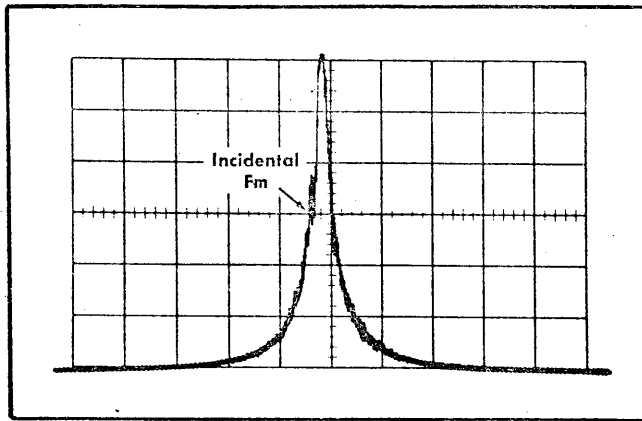

Fig. 6-24. Typical display showing identical frequency modulation. Measure the horizontal displacement of the signal at the most vertical slope of the signal.
- f. Check the amount of frequency modulation (see Fig. 6-24) in the IF feedthrough signal. Must not exceed 2 millimeters or 1 minor division ( $\leq 200$  Hz).